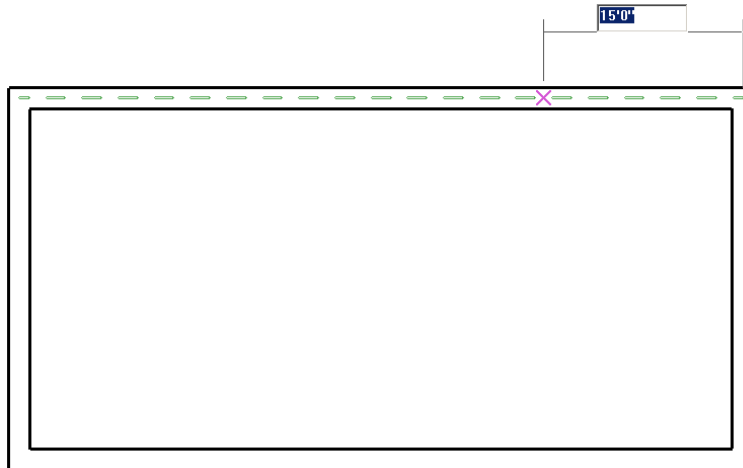

Figure 2-48 Specifying the distance for starting the first interior wall segment
- e. Sketch the interior walls based on the given parameters, refer to Figures 2-48 through 2-54.
2. Enter **15'0"** on the keyboard, as shown in Figure 2-48, to specify the starting point of the first interior wall.